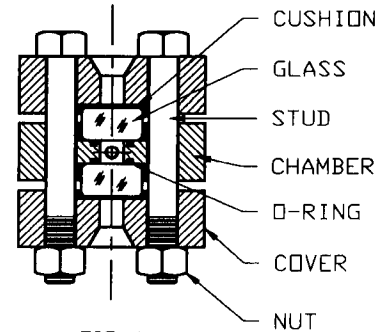
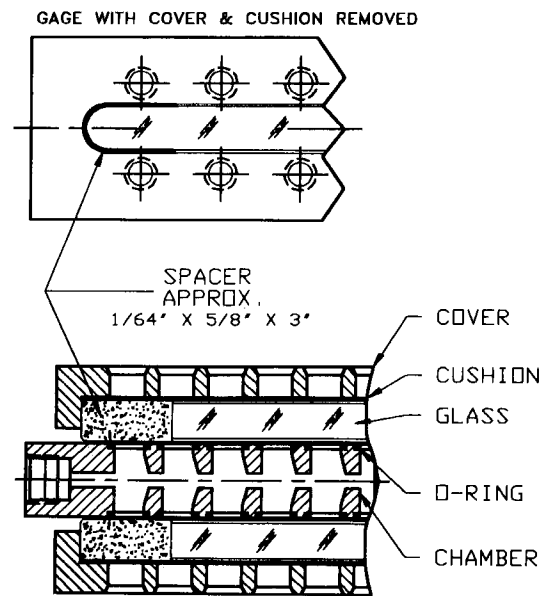

FIG. 1
FIG. 3
1. Always use a new glass, cushion and O-rings when rebuilding a gage section. Assemble the components in accordance with the sectional view Figure 1 above. In order to prevent contact between the sides of the glass and the cover which will cause point loading due to differential expansion and consequent glass breakage, install end spacers as shown in Figure 3.